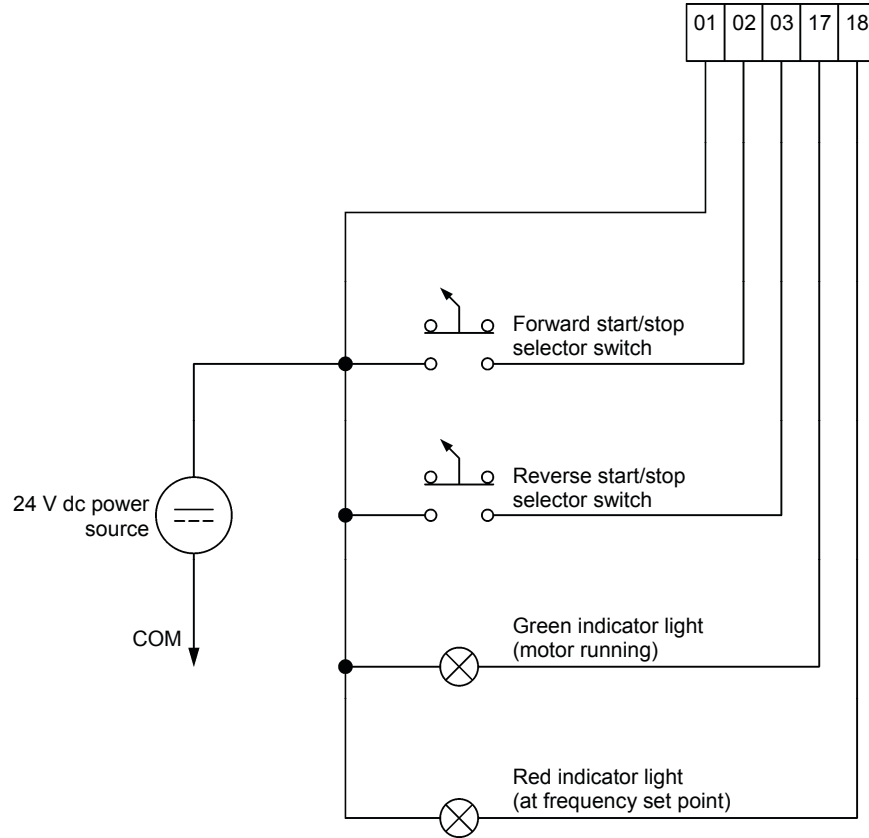

Figure 50. VFD control circuit with start/stop and forward/reverse switches.
4. Connect the equipment as shown in Figure 50. As the figure shows, two switches add control elements to the drive: